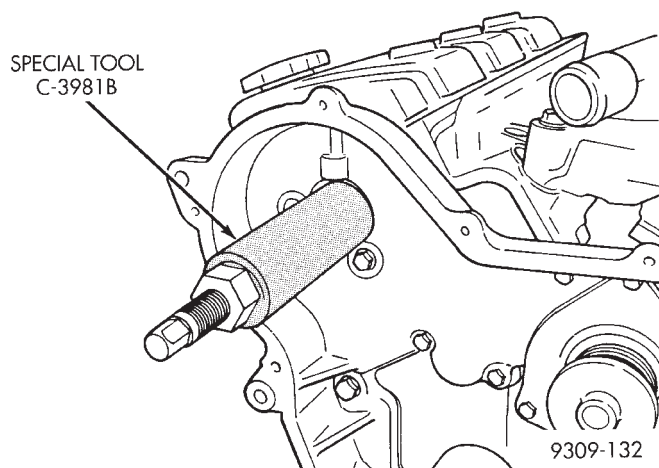

Fig. 73 Camshaft Oil Seal—Removal
- (1) With camshaft sprockets removed. Refer to procedure outlined in this section.
- (2) Use Special Tool C-3981B to remove camshaft oil seal (Fig. 73).